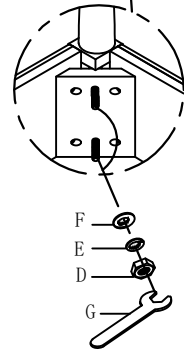

Figure 3
4. Attach four casters to the bottom panel and tighten Screw (I) by screwdriver as shown in Figure 3.